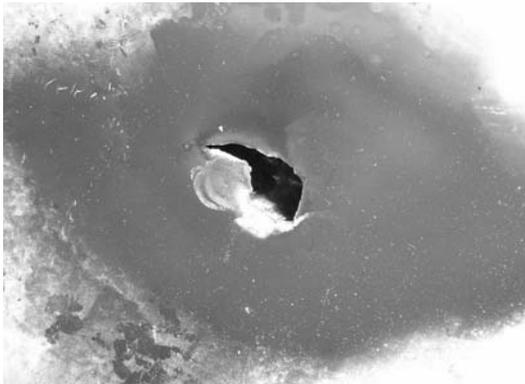

FIGURE 9: Burned Through Heat Exchanger
d. Burn Through. See Figure 9.